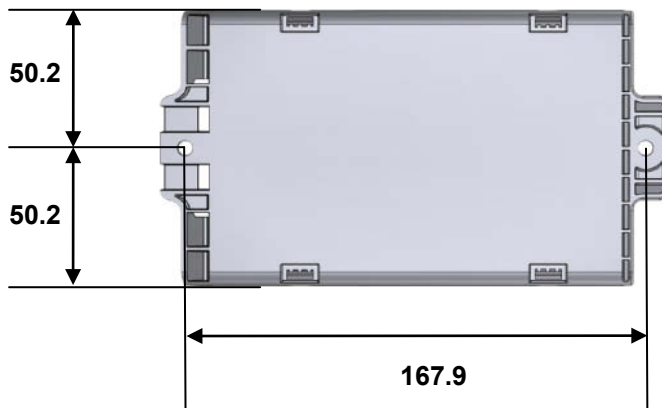
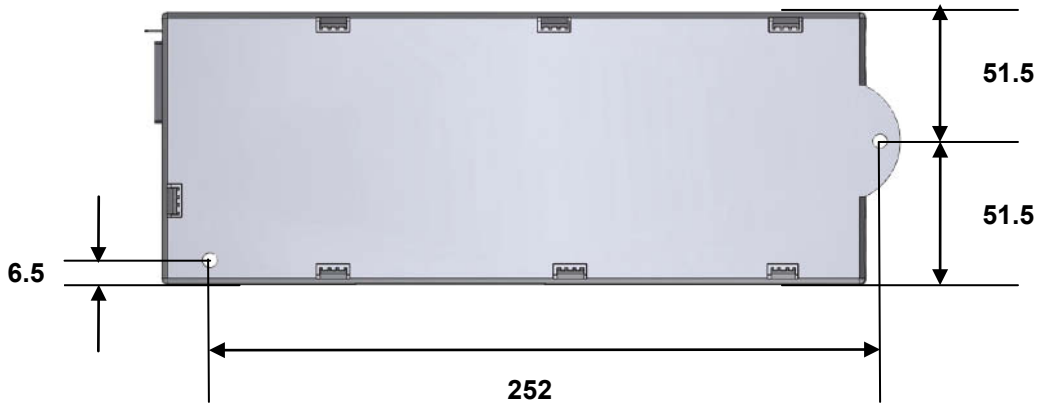

Figure 24 Mounting dimensions: SMART control unit (in mm)
Figure 26 Mounting dimensions: COMPACT control unit (in mm)
- 1 Mark the drill holes. The positions of the holes are shown in Figure 24 (SMART) or Figure 26 (COMPACT).